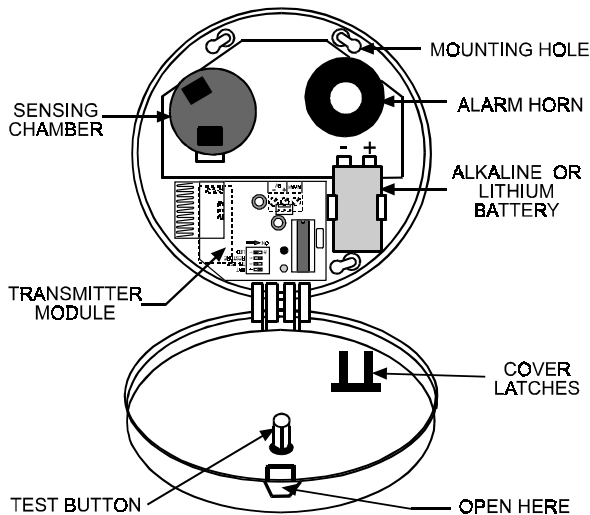

Figure 2. MCT-423 with Cover Swung Open
B. Open the MCT-423 by pulling the cover away from the base at the point indicated by "OPEN HERE" in Figure 2.